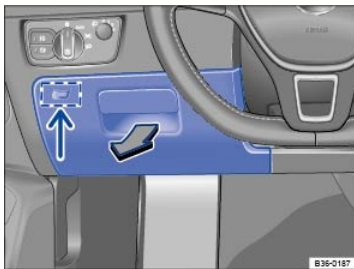

Fig. 137 On the driver side: Storage compartment.
To *open* the compartment, pull the handle ⇒ Fig. 137① in the direction of the arrow.
There may be a holder for coins on the inside of the cover ⇒ Fig. 137 (small arrow).